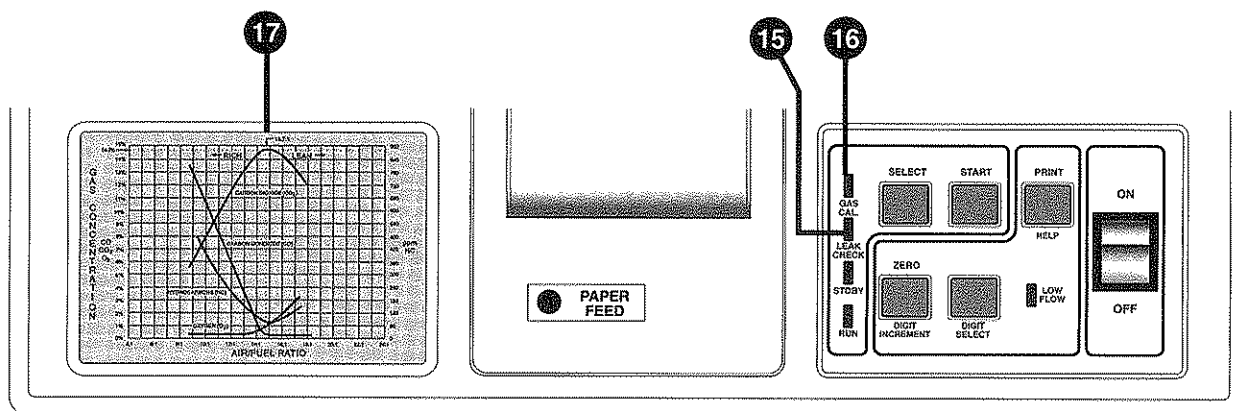

FIGURE 13:
**15. LEAK CHECK Indicator** - (see FIGURE 13) Yellow Light Emitting Diode (LED) illuminates when the **LEAK CHECK** function is selected, and flashes when the **LEAK CHECK** function is entered (**START** switch is depressed).
**17. STOICHIOMETRY GRAPH** - This decal graphically presents the relationship of the four (4) measured gasses; **CO**, **CO2**, **HC**, and **O2**.